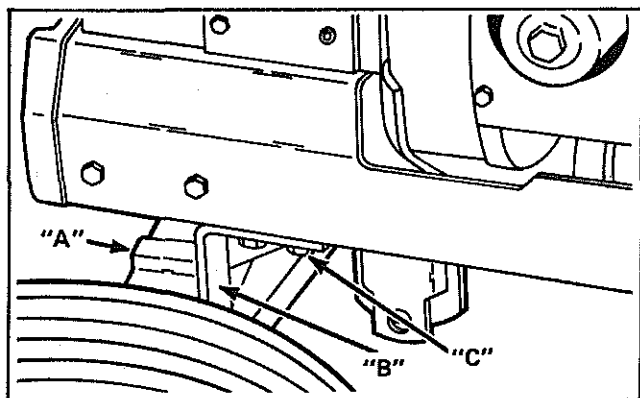

FIGURE 5-2
If the clearance between the Front axle assembly "A" (Fig. 5-2) and the Stop assemblies "B," is 1/16" or more, the stops must be adjusted.
1. Loosen capscrew "C" (Fig. 5-2).